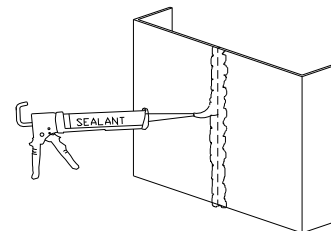

**Figure 11:**
- With bottom side of sillpan up, apply a 3/8" bead of compatible sealant 1/2" in from interior leg. Sealant bead to run across the bottom as well as up each vertical leg of the sillpan. Also apply sealant beads near the sides and across the front (Figure 11).